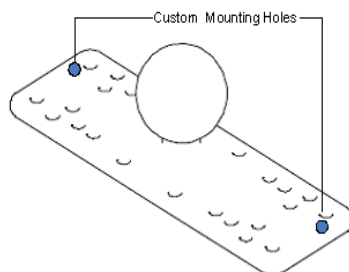

Figure 2-2: Factory installed ball plate (rectangular)
- SPP ball plate (rectangular, attached to the SPP at the factory, see Figure 2.2)